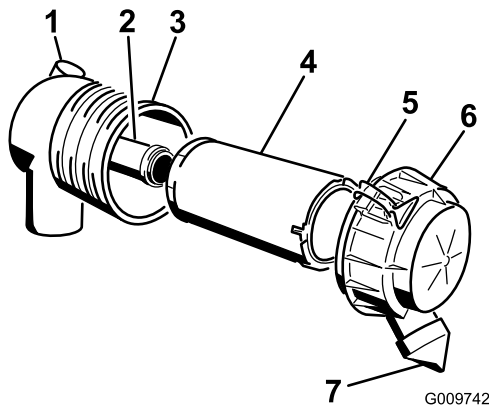

Figure 35
Important: Service the air-cleaner filter only when the service indicator shows red (Figure 35). Changing the air filter before it is necessary only increases the chance of dirt entering the engine when you remove the filter.
4. Release the latches on the air cleaner and pull the air-cleaner cover off the air-cleaner body (Figure 35).
1. Gently slide the primary filter out of the air-cleaner body (Figure 35). Avoid knocking the filter into the side of the body.
3. Carefully slide the primary filter into the filter body (Figure 35). Ensure that it is fully seated by pushing on the outer rim of the filter while installing it.
4. Install the air-cleaner cover with the side indicated as UP facing up and secure the latches (Figure 35).